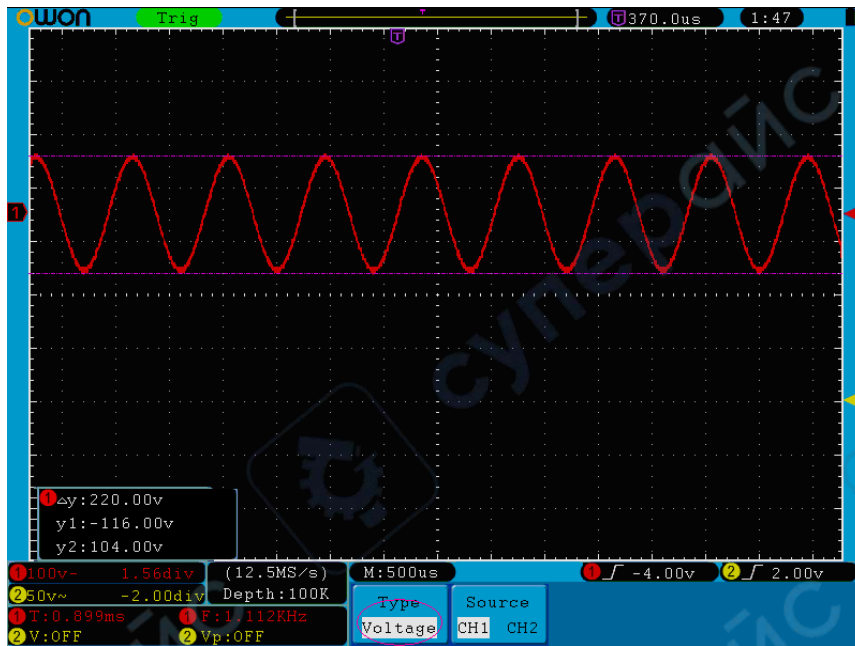

Figure 5-74 Waveform of Voltage Cursor Measurement
4. According to the measured waveform, adjust the positions of Cursor1 and Cursor2 by turning the **VERTICAL POSITION** knob of CH1 and CH2. Cursor increment window at the left bottom of waveform shows absolute value of D-value of cursor 1 and cursor 2 and the present position of the two cursors (see *Figure 5-74*).